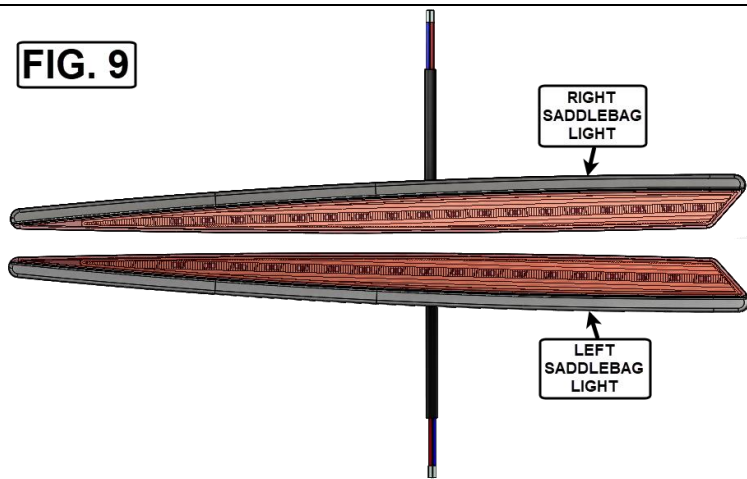

FIG. 10
14. PLACE TWO SMALL PIECES OF MASKING TAPE ON THE SADDLEBAG LID (FIG. 10) WITH THE BOTTOM EDGE 1/4" BELOW THE RIDGE.
16. FEED THE END OF THE CABLE FROM THE LEFT LIGHT THROUGH THE HOLE DRILLED IN THE SADDLEBAG LID. PEEL THE BACKER FROM THE TAPE ON THE BACK OF THE LIGHT (BE SURE NOT TO TOUCH TAPE) AND PRESS LIGHT FIRMLY IN PLACE ACCORDING TO FIG. 10.